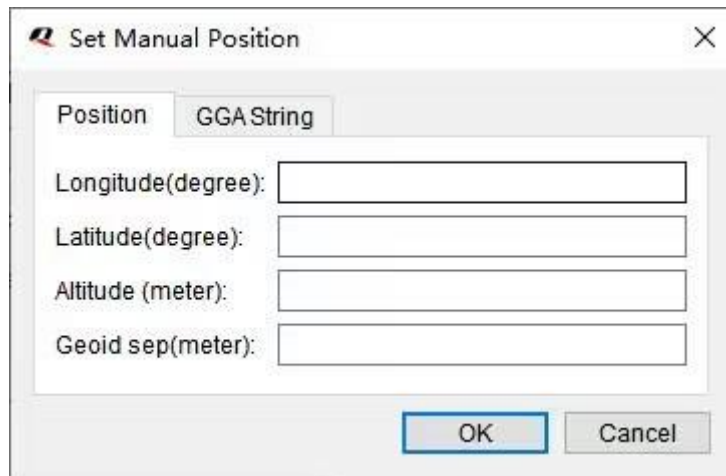

Figure 27: Setting Manual Position
- Step 5:** To utilize a fixed position, you can select the checkbox labeled “**Use manual position**”, and a “**Set Manual Position**” window will appear as shown in Figure 27: Setting Manual Position. Once you input the required data, the uploaded position will be the fixed value you have manually set. If the checkbox remains unchecked, the real-time position in the **GGA** message output by the module will be used.